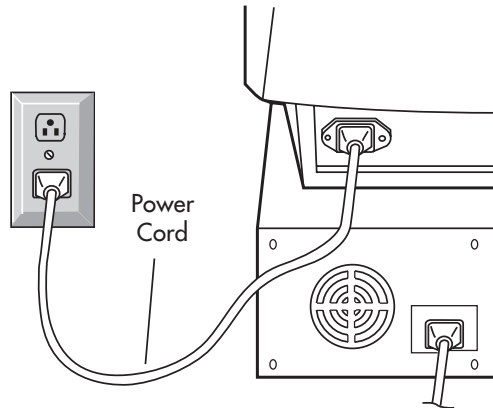

Figure C.1
5. Connect one end of the power cord to the MultiSync FP1355 monitor and the other end to the power outlet (**Figure C.1**).